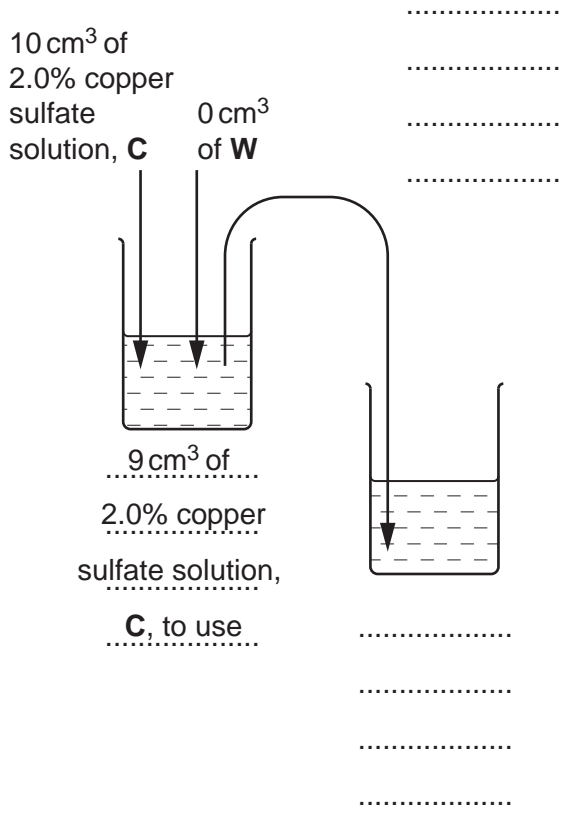

Fig. 1.1
Fig. 1.1 shows you the first two beakers you will use to make your serial dilution.
(ii) Complete Fig. 1.1 by drawing as many extra beakers as you need for your serial dilution.
1. Prepare the concentrations of copper sulfate solution as decided in **(a)(ii)** and shown in Fig. 1.1.